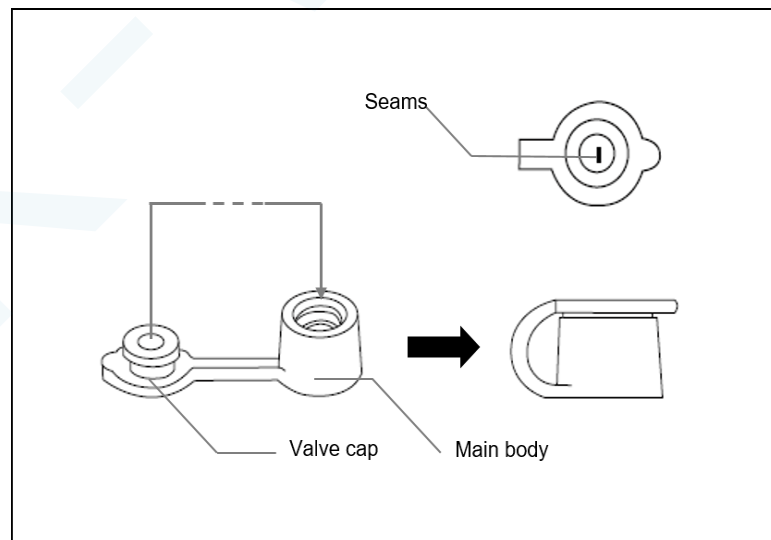

Figure 3.10
2. Put the cap on the body (Figure 3.10).